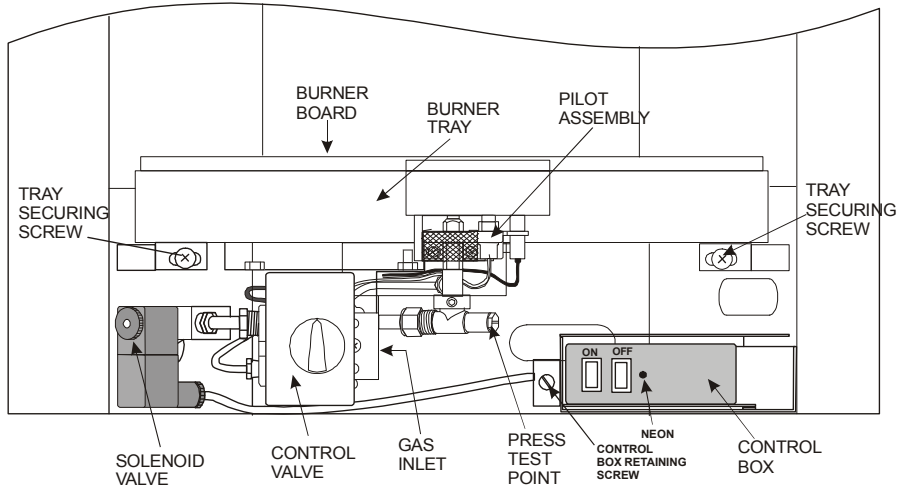

Figure 62 - Duo Power Natural Gas
2. Remove the pressure test point screw (see **Figure 62**, noting that the position of the LPG test point may vary) and connect a pressure gauge to the test point.
1. With reference to **Figure 62**, unscrew the control box retaining screw, until almost free.